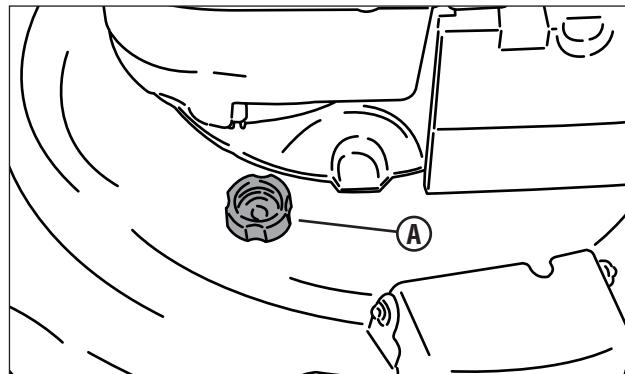

Figure 15: Washout port
5. Connect the male end of a standard garden hose to the washout port connector (A, **Figure 15**).